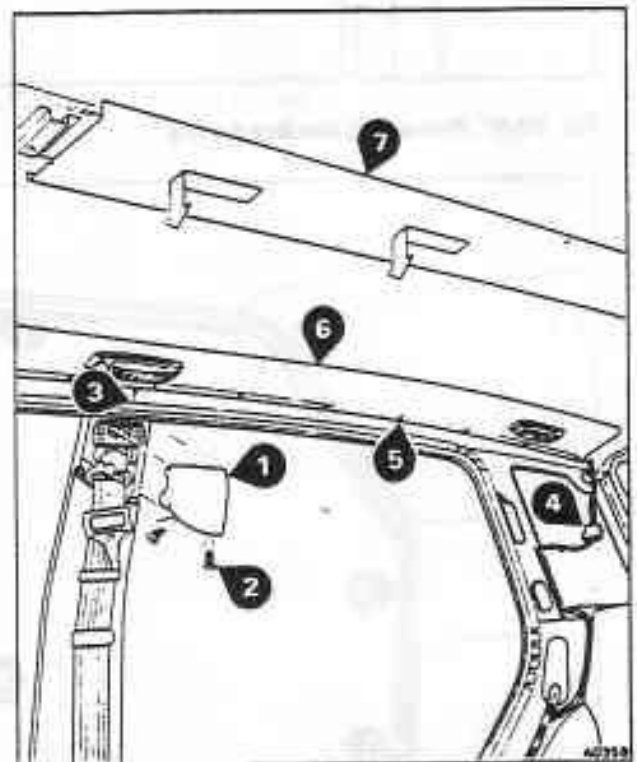

Fig. S8-8 Removing the side header trim panels
19. To remove the upper 'BC' post trim panel proceed as follows referring to figure S8-8, item 1.
20. Release the interior lamp loom connectors (see fig. S8-8, item 4). Remove the retaining screws (item 5) and withdraw the side header panels (item 6).
21. Slide the centre roof trim panel forward to disengage the retaining brackets (see fig. S8-8, item 7).